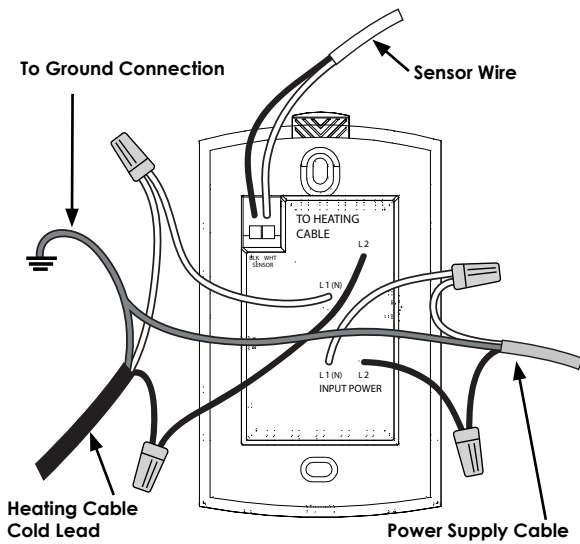
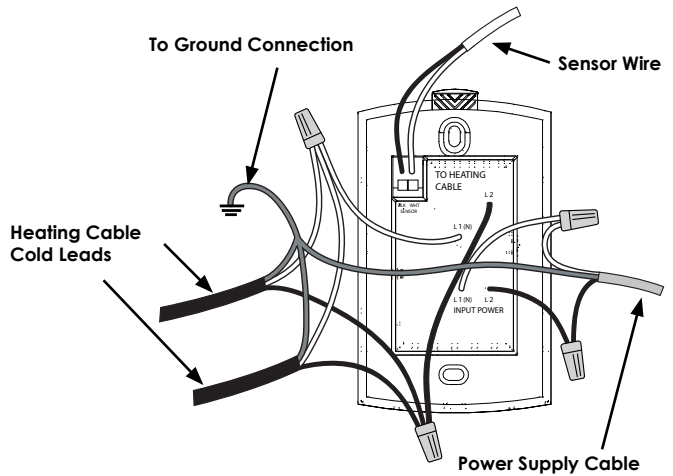

Figure 5
Figure 6
4. Prepare each heating cable/cold lead for connection/splicing and connection per Figure 5 or Figure 6, as applicable.
5. Prepare the sensor wire per Figure 5 or Figure 6, as applicable. Use screwdriver for connection to the sensor wire connections (black and white wires) to corresponding BLK and WHT terminals.